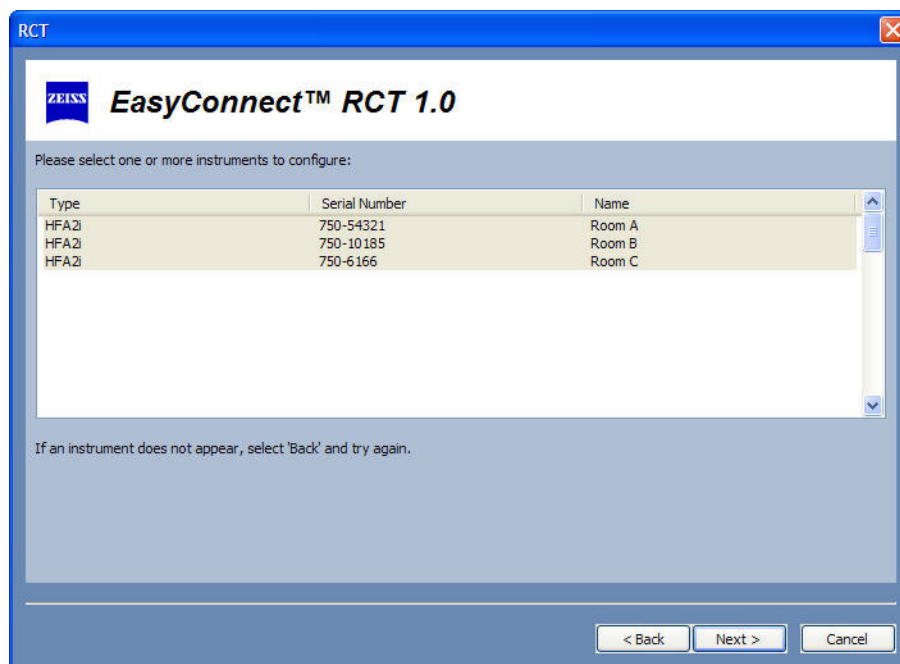

Figure G.7 Select Networked HFA Instruments to Configure
- 3 A list of all networked HFA II-/i instruments will be displayed (Figure G.7). All instruments are selected by default. Select the instruments you want to configure and then select NEXT to continue. CTRL-CLICK to select or deselect multiple instruments.